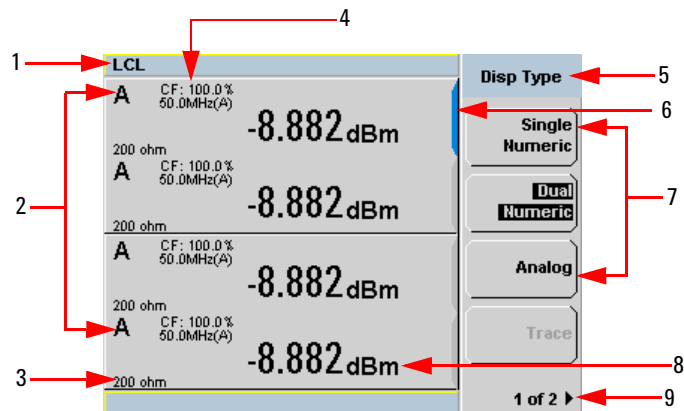

Figure 1-1 Dual numeric display
- Figure 1-1 Dual numeric display 8